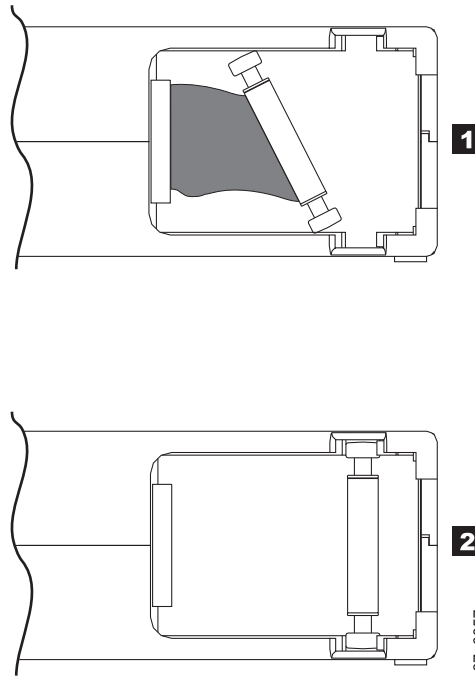

Figure 143. Leader pin in the incorrect and correct positions. The cartridge door is open and the leader pin is visible inside the cartridge.
- Check that the leader pin is properly seated (see **2** in Figure 143 on page 175).
- Do not drop the cartridge. If the cartridge drops, slide the cartridge door back and ensure that the leader pin is properly seated in the pin-retaining spring clips. See **2** in Figure 143 on page 175. If the leader pin becomes dislodged, go to “Repositioning or reattaching a leader pin” on page 174.
Improper placement of leader pin. See Figure 143 on page 175.
A leader pin that is improperly seated inside a cartridge interferes with the operation of the drive. Figure 143 on page 175 shows a leader pin in the incorrect **1** and correct **2** positions.